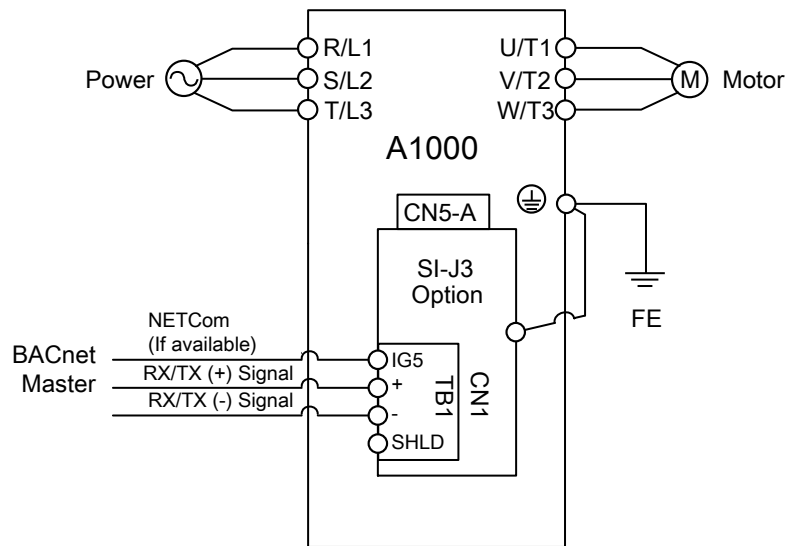

Figure 5.19 Connection Diagram
7. Connect the network communication cables to the option modular connector terminal block (TB1). Isolate communication cables from main circuit wiring and other electrical and power lines. Make sure that you firmly connect the cable end. (Refer to Figure 5.19 and Figure 5.20 for more information.)